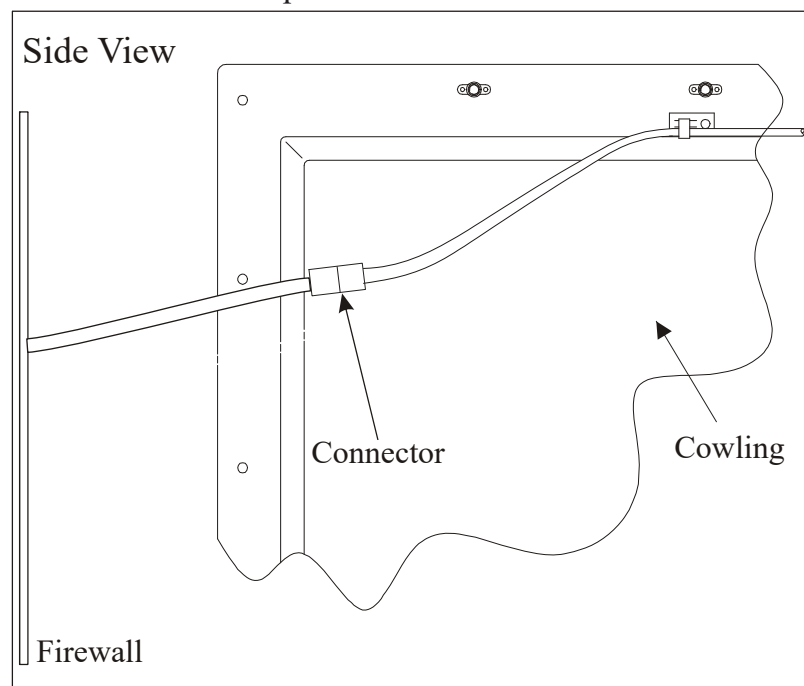

Figure 2 Landing Light Connector
- 4 If landing light installed: Disconnect the landing light wiring using the connector shown in Figure 2.